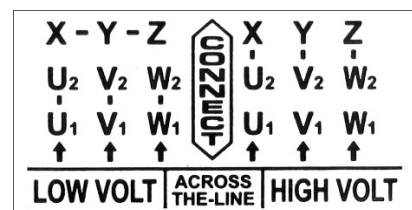

Figure 6-1
- Remove junction box cover on motor and change wires according to diagram found on inside cover (also shown in Figure 6-1).